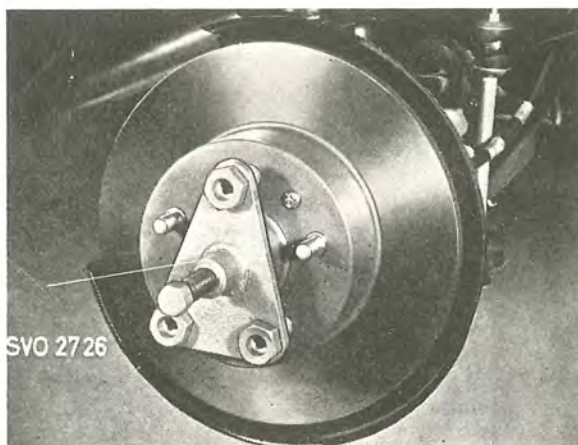
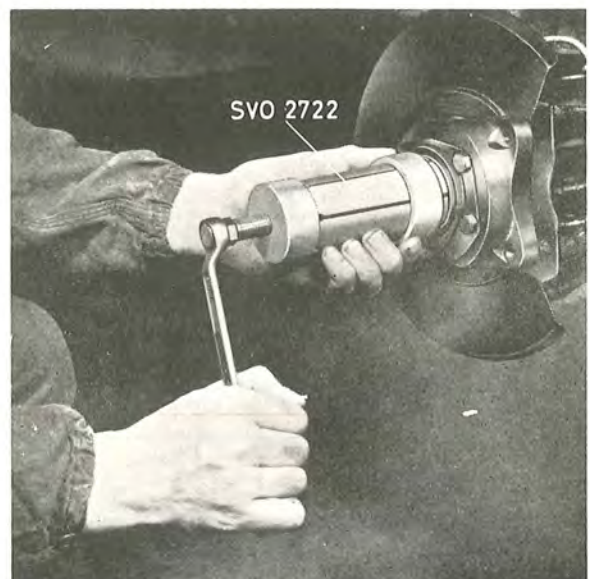

Fig. 7-14. Removing the hub
Fig. 7-15. Removing the inner bearing
4. Remove the grease cap with tool SVO 2715 (Fig. 7-13). Remove the split pin and castle nut. Pull off the hub with puller SVO 2726 (see Fig. 7-14). Pull off the inner bearing from the stub axle with puller SVO 2722 (see Fig. 7-15) if the bearing remains in place.